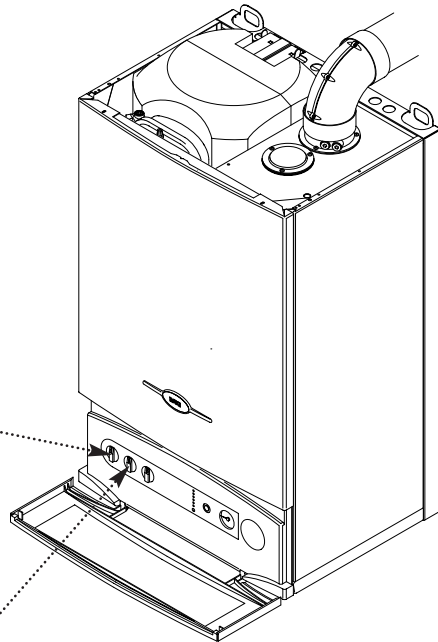

Fig. 6
2. Turn the control knob clockwise to increase the temperature (Fig. 6).